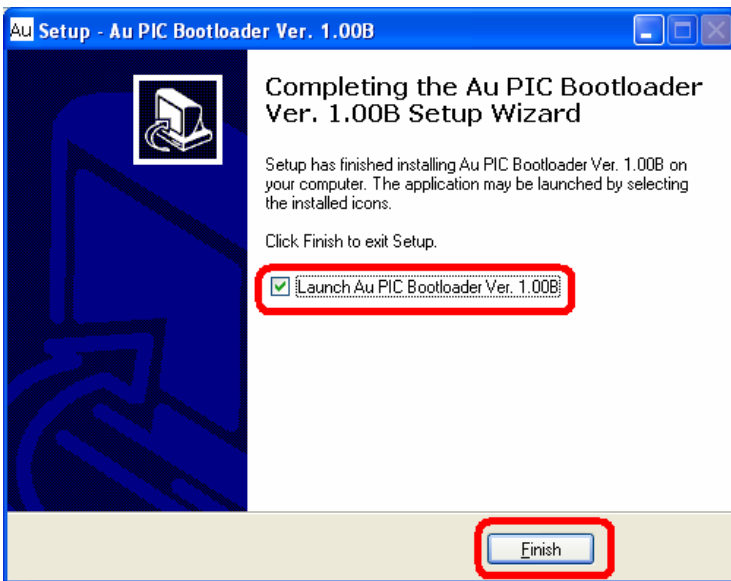

Figure C-8
- After a few seconds, “Completing the Au PIC Bootloader Setup Wizard” window shows up, check “launch Au Bootloader”, click “Finish” to exit setup (Figure C-8).